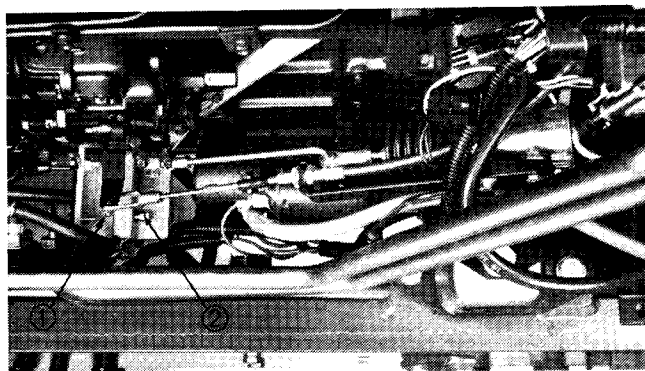

Figure 8
2. Loosen air bleed screw at top of fuel filter/water separator (Fig. 8). Fuel will flow out around the screw. When a solid stream of fuel flows out around screw, tighten screw.